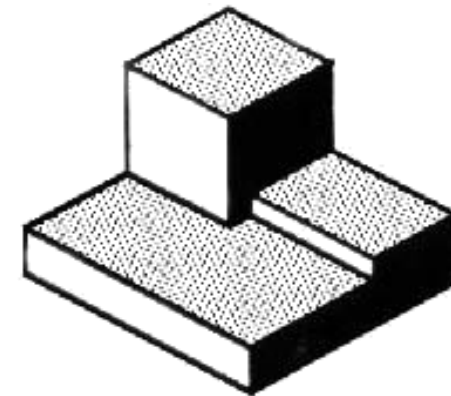

Figure 1- A Machined Block
- Hope you like the object in Figure 1, because you'll be seeing a lot of it. Before we get started on any technical drawings, let's get a good look at this strange block from several angles.